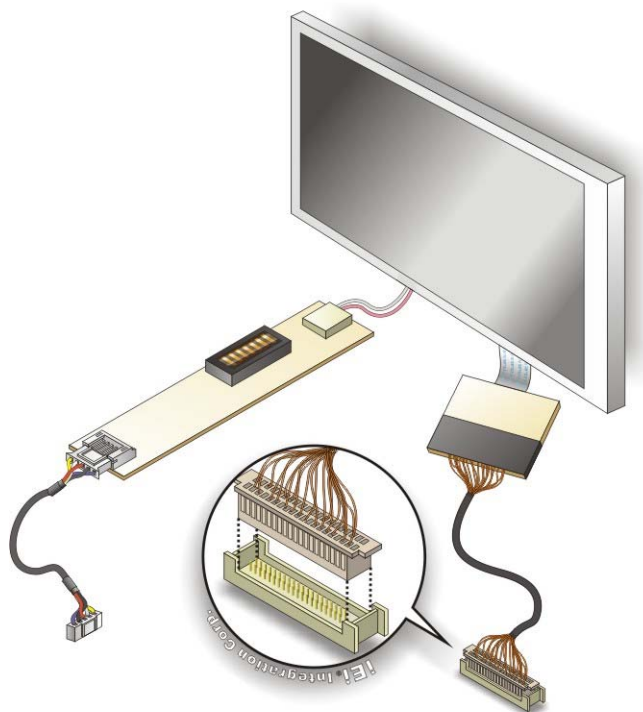

Figure 4-10: LVDS Connector
Step 2: Insert the cable connector. Insert the connector from the LVDS PCB driving board to the LVDS connector as shown in **Figure 4-10**. When connecting the connectors, make sure the pins are properly aligned.